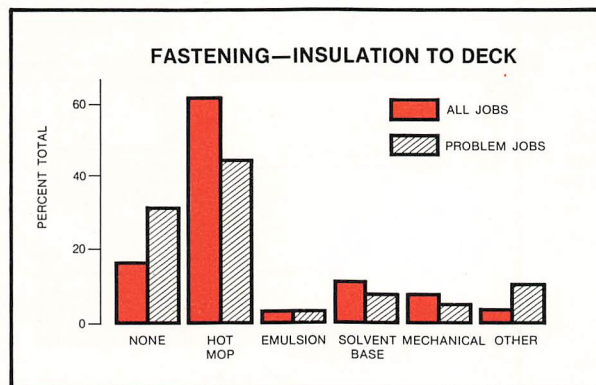

FIG. 7
- Figure 7 - In this case, we are dealing with various methods of deck fastening as performance criteria. The shaded bars represent the percentage of problems while the colored bars represent the percentage of projects. As can be seen the performance is average, except in two cases, loose-laid and hot-mopped attachment. Rather surprisingly, loose-laid materials create only half as many problems as might be expected, while hot-mopped systems seem to be involved in some 15% more problems than their usage would predict. This may reflect the fact that blistering accounts for more than half of all problems, a situation which favors loose-laid sheets.